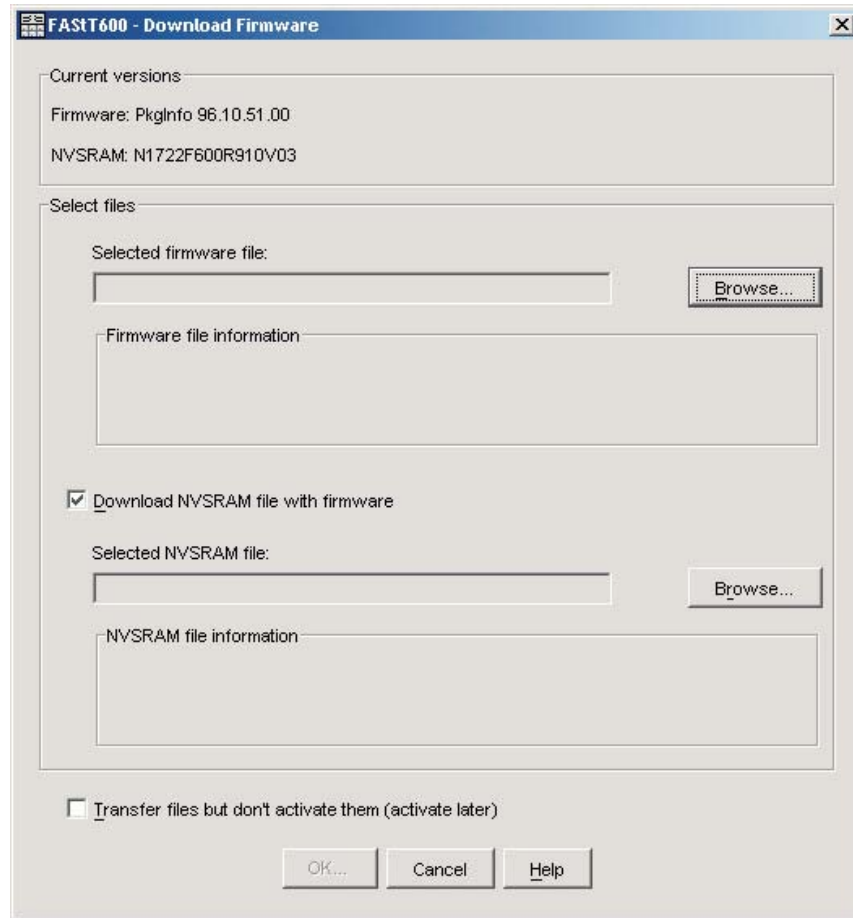

Figure 25. Download Firmware window
3. Click **Advanced** → **Maintenance** → **Download** → **Controller firmware....** The download firmware window opens as illustrated in Figure 25 on page 141.